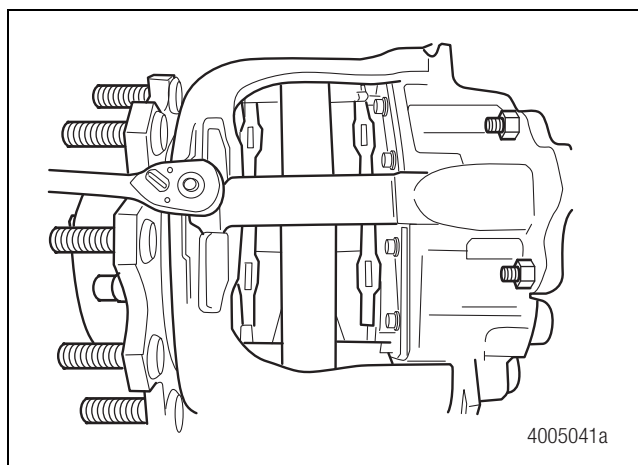

Figure 4.19
4. Install the pad retainer and pad retainer bolt. Tighten the bolt to 25-30 lb-ft (34-40 N•m). Figure 4.19.